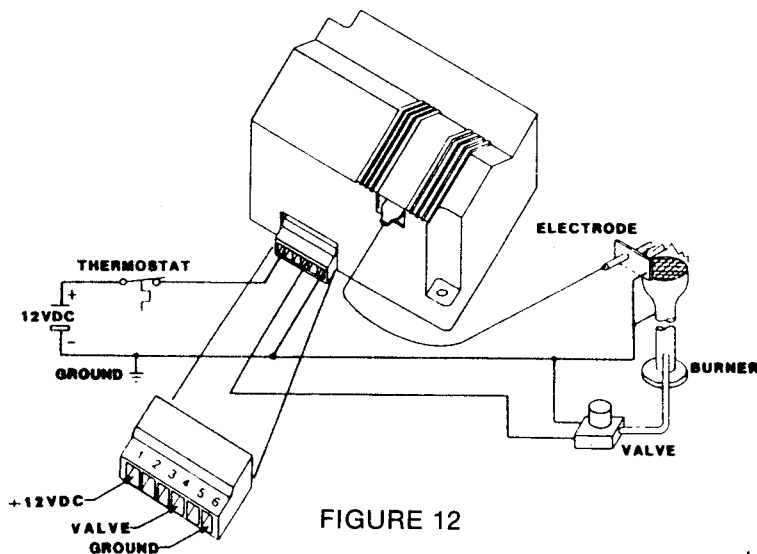

FIGURE 12
The Fenwal series 05-30 direct spark ignition systems operate through a thermostat to provide a means of ignition for the main burner. This system provides three (3) tries for ignition. This is accomplished by generating a spark between high voltage electrode and ground. Once the flame is established, a flame rod monitors the main burner flame (see Figure 12).
If a spark is present and the gas valve opens for the flame establishing period but then locks out at the end of three to ten seconds, check the input voltage at terminal 1 and 6 for the proper polarity. Terminal 1 should be "hot"; (12-VDC) with respect to ground. Terminal 6 is neutral, or zero voltage, with respect to ground. (see Figure 12)
With power applied to the ignitor, sparking should occur and the solenoid valve should open simultaneously. If sparking occurs, but the valve does not open, place a volt meter between terminal 4 on the input connector and ground (or across valve). Recycle the ignitor by turning the thermostat down for five seconds minimum and then back up and determine if voltage is present at the valve, (terminals 4 (valve) and 6 (ground) in Figure 12). If voltage is present, and the valve does not open, remove wires from the valve terminals and re-test the valve on a known voltage source. If valve does not function still, it should be replaced. If the voltage is not present at terminals 4 and 6, the ignitor should be replaced. Check P.C. connector area. (Clean with soft rubber eraser only.) Also, check the terminals in the plastic connector for good contact.